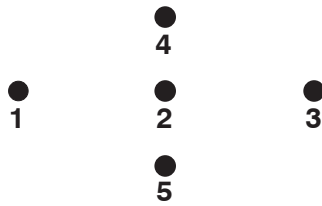
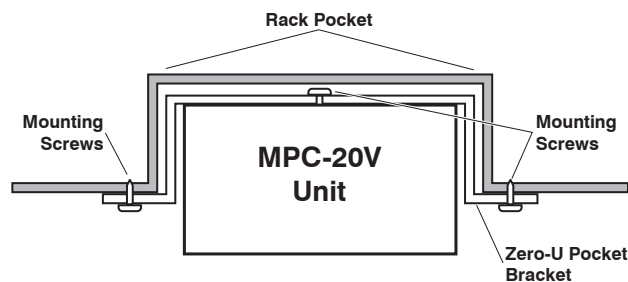

Figure 1: Mounting Holes; MPC-20V Back Panel
Figure 6: Zero-U Pocket Brackets (Cross Section; Nested in Pocket)
- a) **MPC-20V (Vertical) Units:** The "L" brackets can either be attached to the back or side of the unit, and the unit can also be installed to face the front, rear, or either side of the equipment rack. Each end of the MPC features seven screw holes for attaching the brackets, this allows you to mount the brackets on either side of the unit, and in one of two possible positions on the back. When mounting the brackets on the back of the unit, use screw holes 1 and 2 or 2 and 3 as shown in Figure 1. Use two screws (supplied with the bracket) to secure one bracket to the top of the MPC and the second bracket to the bottom of the MPC.
- b) Locate the screw holes for the Mounting Buttons on the MPC-20V back panel. There are two screw holes at the top of the back panel and two holes at the bottom. Note that the screw holes for the Mounting Buttons are not the same holes shown in Figure 1; the Mounting Button screw holes are located at the top of the unit, directly above the screw holes shown in Figure 1, and at the bottom, about three inches below the holes shown in Figure 1.
- b) Each end of the MPC features seven screw holes for attaching the brackets, this allows you to mount the brackets on either side of the unit, and in one of two possible positions on the back. When mounting the brackets on the back of the unit, use screw holes 1 and 2 or 2 and 3 as shown in Figure 1.
The Zero-U Pocket Brackets allow you to mount the MPC-20V in APC® style racks, that include a pocket or channel for zero unit mounting as shown in Figures 6 and 7.
- b) Insert the screws supplied with the bracket into the three holes in the center of the Zero-U Pocket Bracket and then thread them into holes 4, 2 and 5 (see Figure 1) on the back of the MPC-20V unit as shown in Figures 6 and 7.
2. Attaching the Zero-U Pocket Brackets to the Equipment Rack: Align the MPC with the rack pocket and then use appropriate retaining screws to secure the Zero-U Pocket Brackets to the rack pocket as shown in Figures 6 and 7.